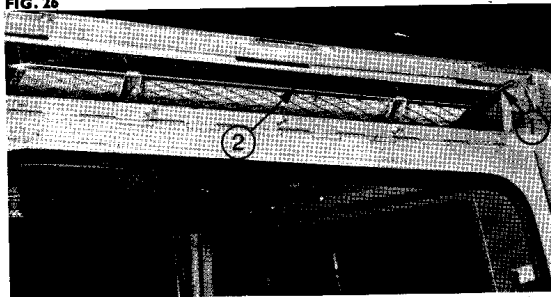

FIG. 27
2. Fig. 27. Pull the clamp bar (1) downwards and remove the filter (2).
6. Secure the filter with the clamp bar (1), then refit the access cowl.